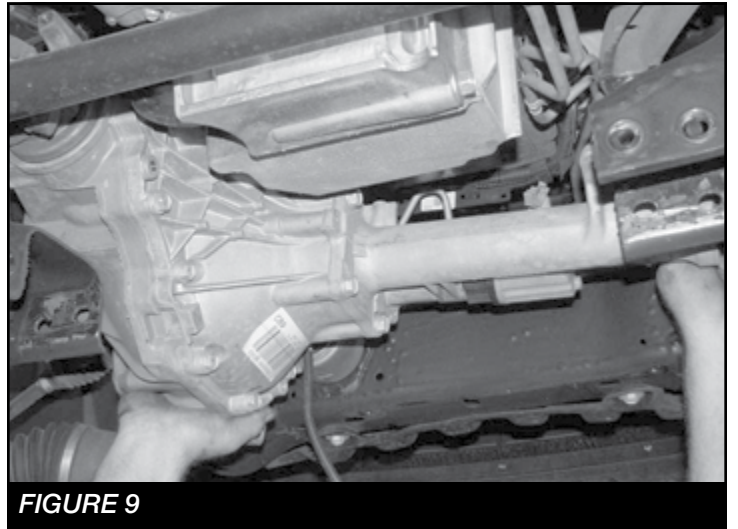

FIGURE 9
12. Disconnect the drive shaft from the front differential solenoid wiring. Disconnect the differential vent tube and remove the diff. Retain Hardware. **SEE FIGURE 9**